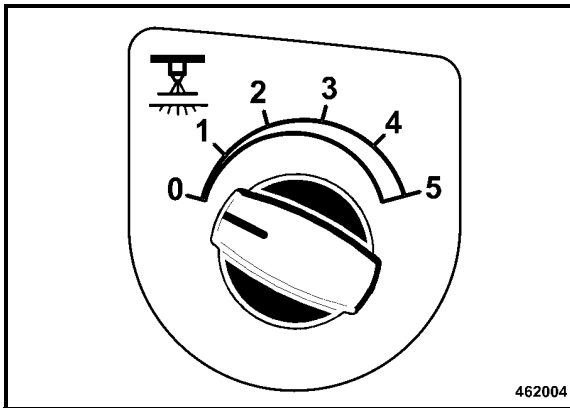

Fig. 80
- Switch the interval switch for pressure sprinkling (Fig. 80) to the desired flow interval.
- To switch off the pressure sprinkling system switch the interval switch for pressure sprinkling (Fig. 80) to position "0".